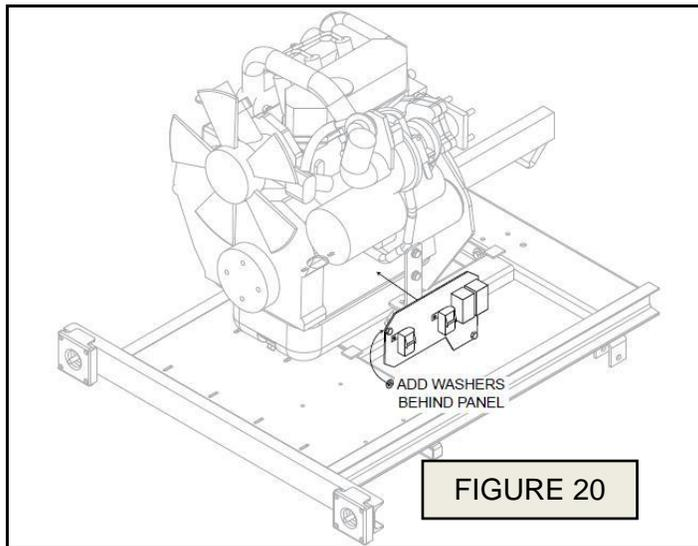

FIGURE 20
- Perkins Engine Only: Reinstall relay/fuse panel over rear engine mount. Insert washers as required (See FIGURE 20) to allow more space between panel and engine.